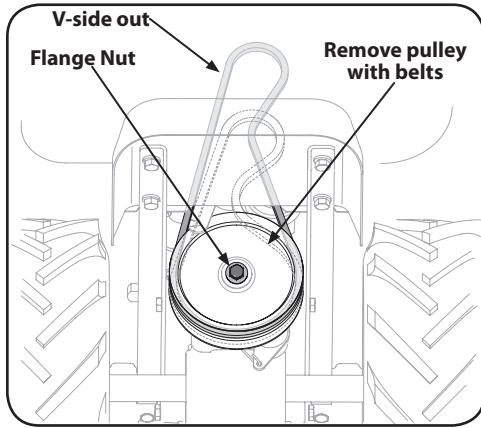

Figure 5-7
6. Remove the flange nut securing the transmission drive pulley, then remove the pulley along with the two belts. See Figure 5-7.